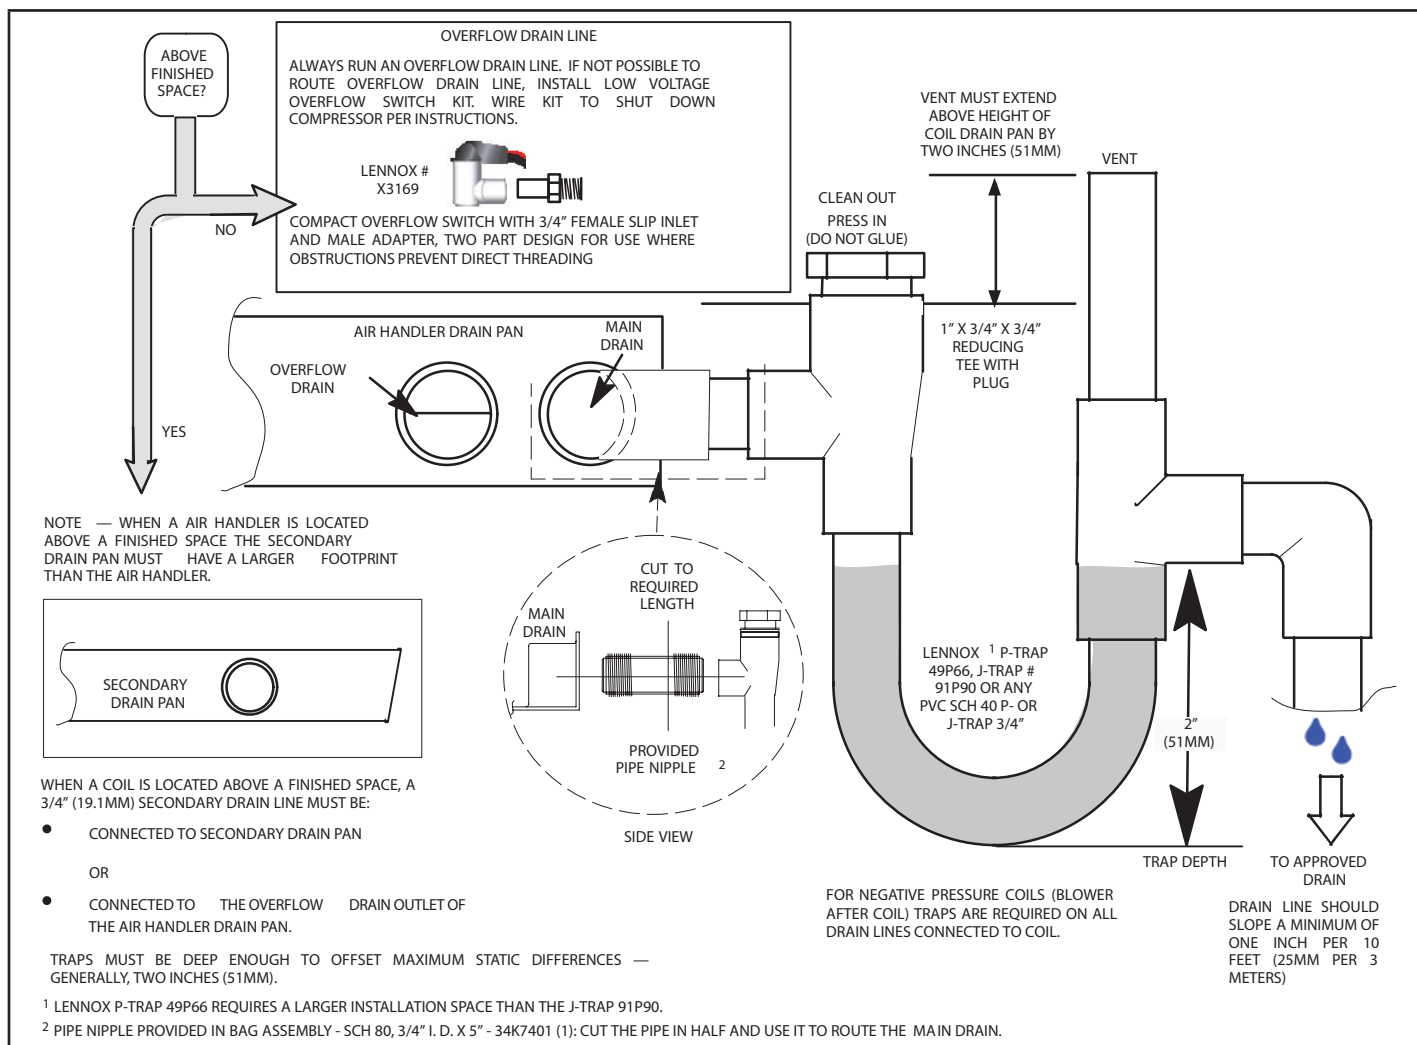

FIGURE 32. Typical Main and Overflow Drain Installations
- 7 - Install a 2" trap in the primary drain lines as close to the unit as practical (see figure 32). Make sure the top of the trap is below the connection to the drain pan to allow complete drainage of the pan.